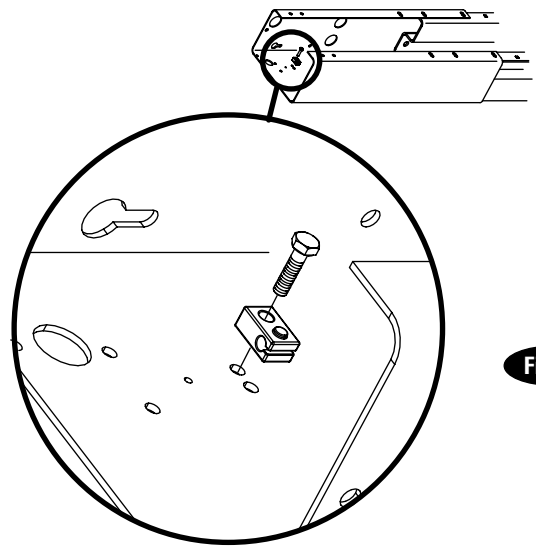

Fig. 2b
4. Latch Cable Guides: Install the latch cable conduit guide brackets to column extensions with (1) 1/4"-20NC x 1" HHCS and 1/4"-20NC Flanged Locknuts, Fig. 2. HHCS should go through hole nearest the edge as shown, Fig. 2b.